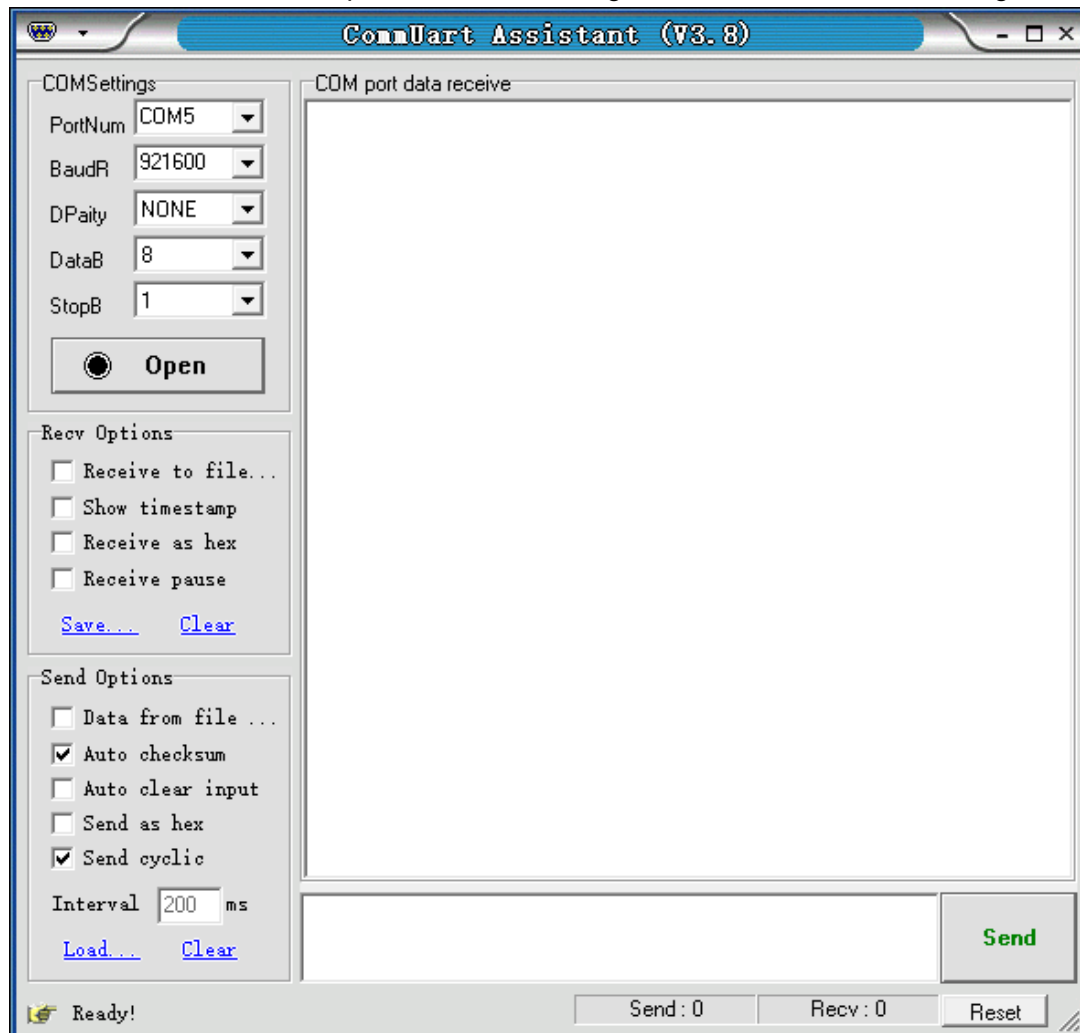

Fig.106 “CommUart Assistant” Software display
3. Open the folder “Uart Driver” in your disk and double click the file UartAssist.exe. It will call out the software interface, as is shown in Fig.106.